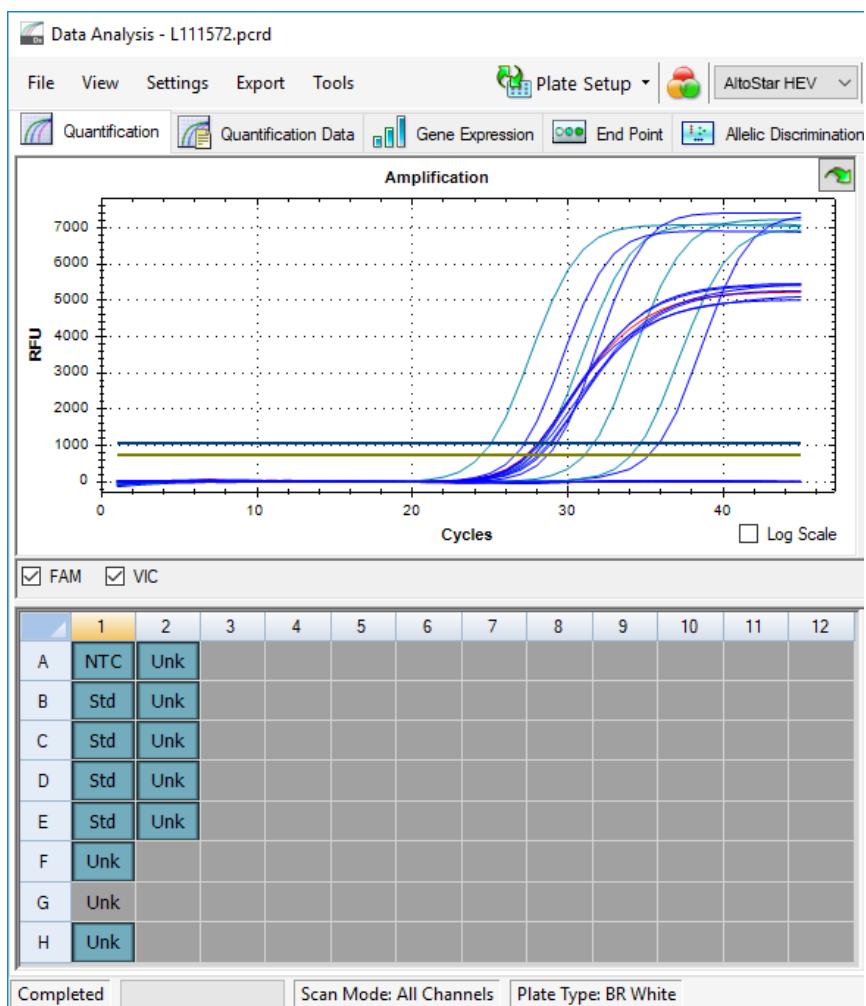

Figure 8: Data Analysis window: excluded well
- The selected well is excluded from the analysis. No results will be generated for this well (see figure 8).